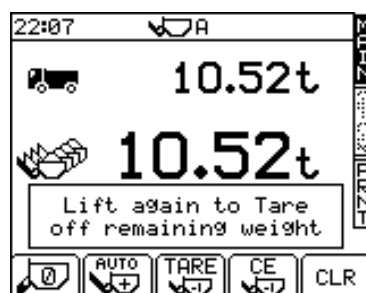

Figure 15b
2. Press the "Tare -1" key (fig.15b).